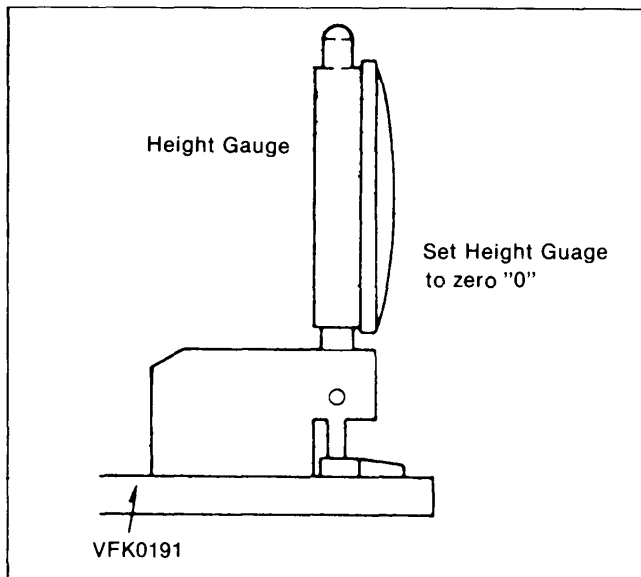

Figure M9
4. Place the Reel Table Height Gauge on the Post Adjustment Plate and set the gauge to zero 0 as shown in Figure M9.